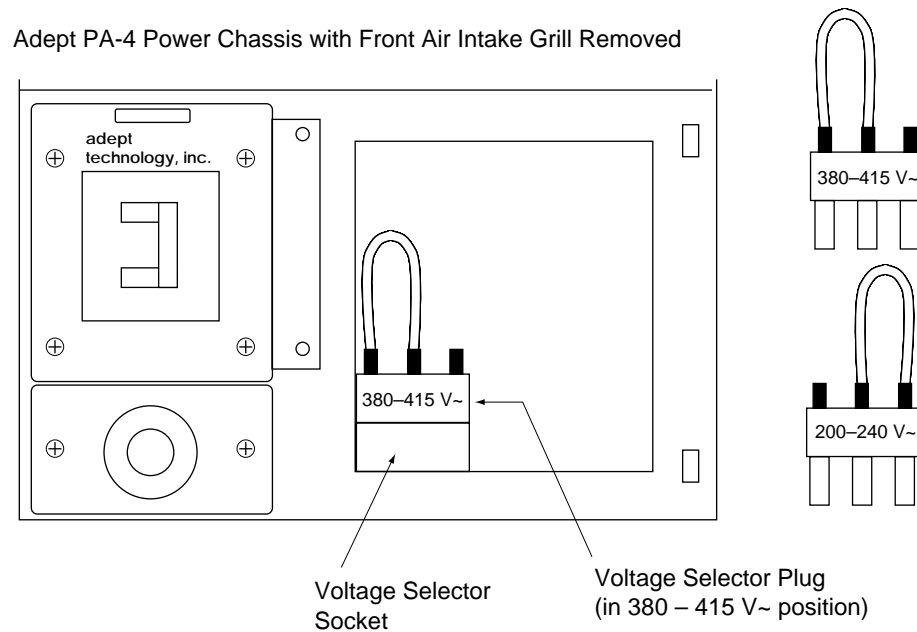

Figure 2-19. Changing Voltage in Power Chassis
3. Inspect the voltage setting; it is marked on the front of the voltage selector plug. To change the voltage setting, remove the selector, rotate it 180° so the required setting is shown, and replace it. See Figure 2-19.